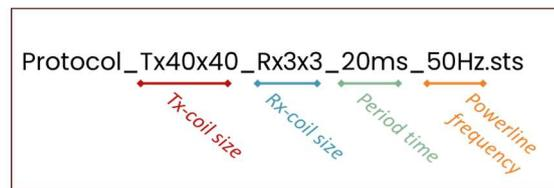

Figure 19. Protocol naming.
The protocol file defines the measurement sequence of the sTEM unit and contains key information for accurately modeling the data (layout geometry, transmitter waveform, etc.). It is essential that the correct protocol for a given setup is selected. The protocol files are named as the example in Figure 19. The Tx- and Rx coil size need to match the layout, and the powerline frequency (50 or 60 Hz) need to match the powerline frequency of the country. It is only possible to select from pre-prepared protocols.
- Check/load Protocol, see Figure 19. The previous used protocol is automatically loaded.